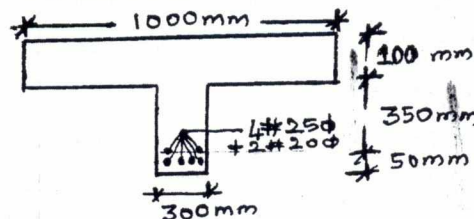

Fig.Q.3(b)
- b. Determine the ultimate moment of resistance of flanged beam as shown in Fig.Q.3(b). Adopt M_{20} grade concrete and Fe415 grade steel. (10 Marks)